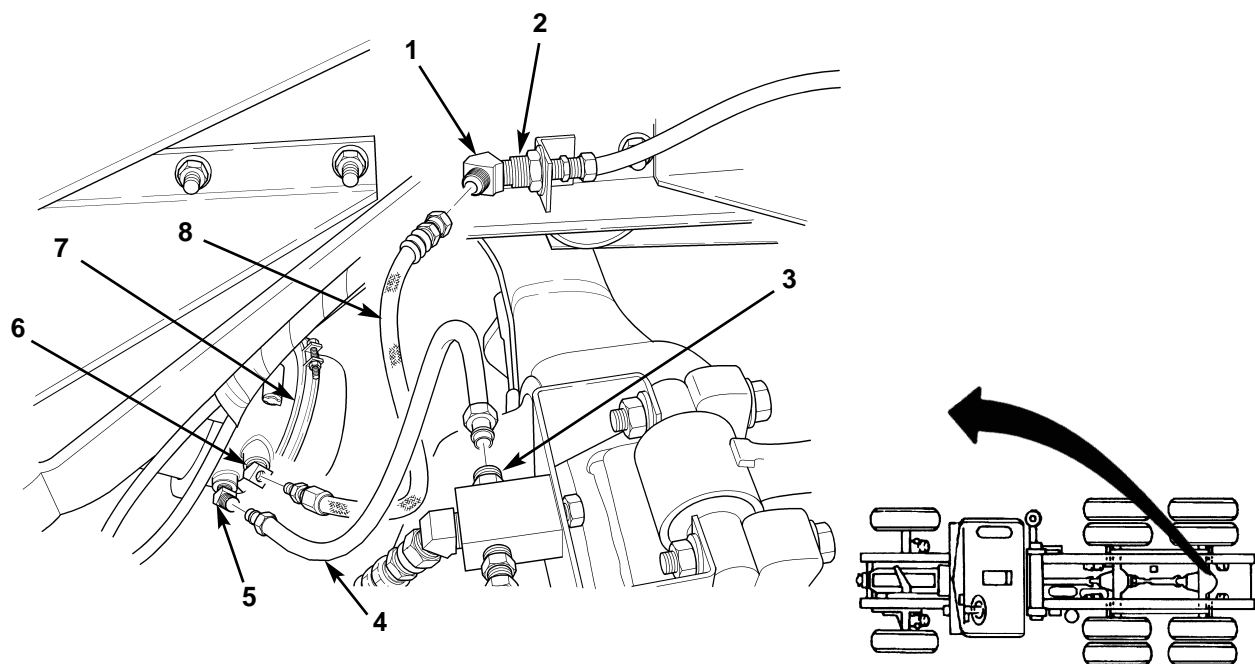

Figure 1. Removing Tube and Hose Assembly from Service Brake Chamber.
1. Disconnect hose assembly (figure 1, item 8) from flared elbow (figure 1, item 1) on rear air block (figure 1, item 2) and remove hose assembly (figure 1, item 8) from elbow (figure 1, item 6) at service brake port of spring brake chamber (figure 1, item 7).
2. Remove tube (figure 1, item 4) from mountable tee adapter (figure 1, item 3) and elbow (figure 1, item 5) on parking brake port of spring brake chamber (figure 1, item 7).